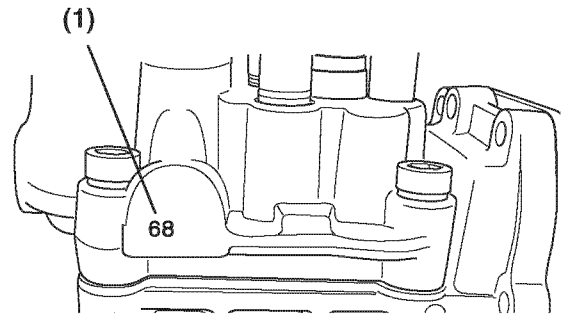

Figure 7-19
*If installing a new or recalibrated fuel injection pump, locate and record the timing index number located on the pump housing boss on the engine side of the new or recalibrated fuel injection pump (**Figure 7-19, (1)**). This number will be used to calculate and adjust the final fuel injection timing.*